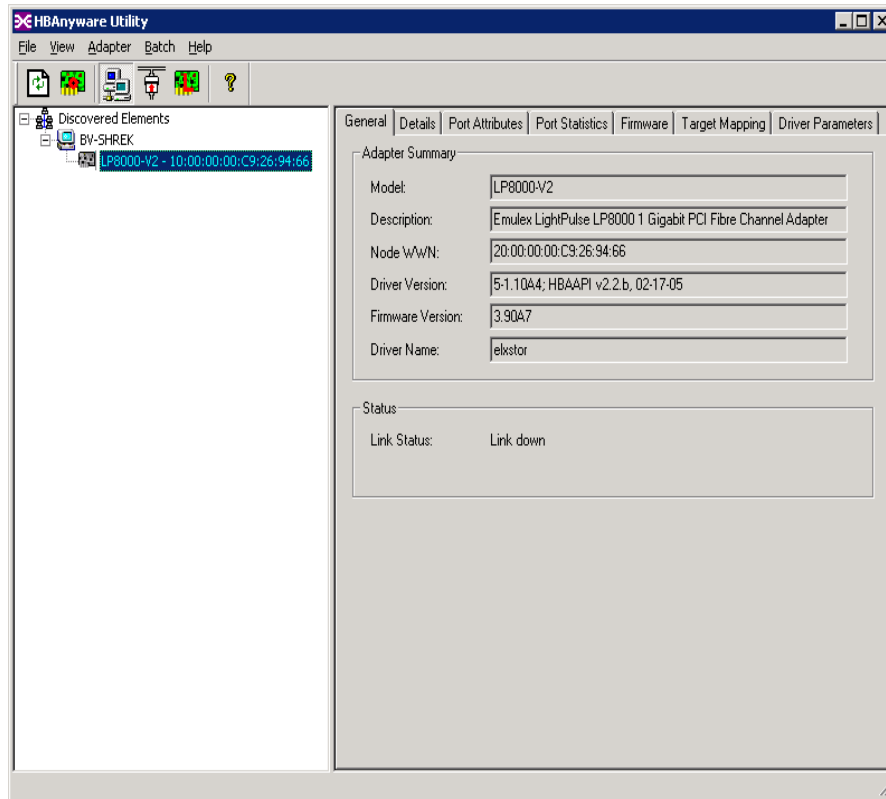

Figure 1 – HBA Application
3. Note the WWN (World Wide Name) of the HBA adapter, e.g. 10:00:00:00:C9:26:94:66 is the WWN in Figure 1.